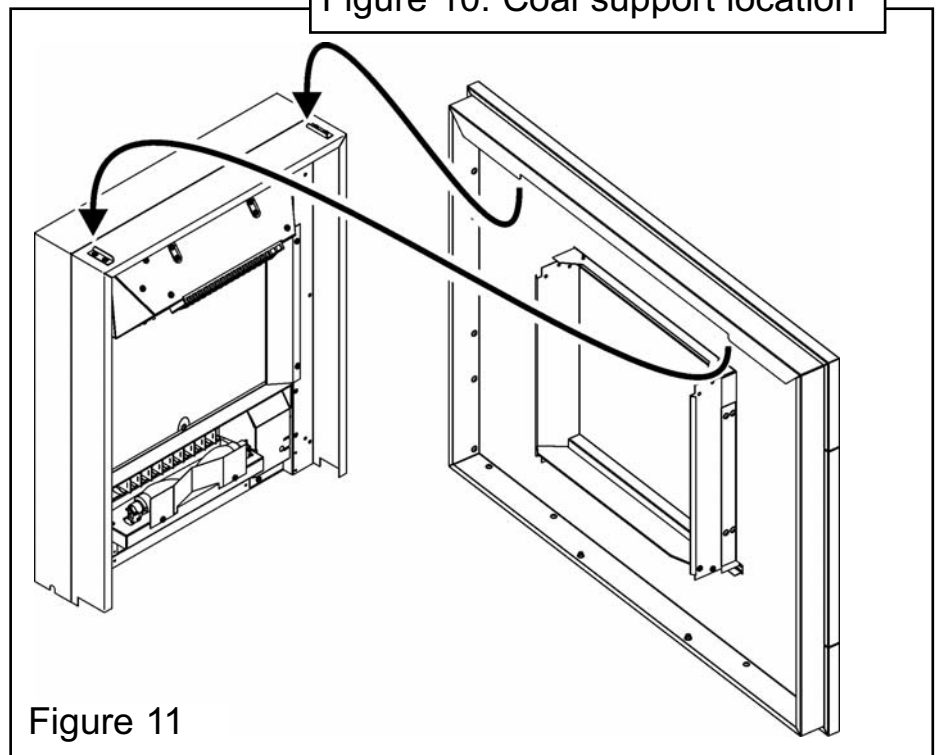

Figure 11
2. Locate the fascia onto the heater. To do this locate the bracket at the top of the fascia over the brackets on top of the front spacer (See figure 11).